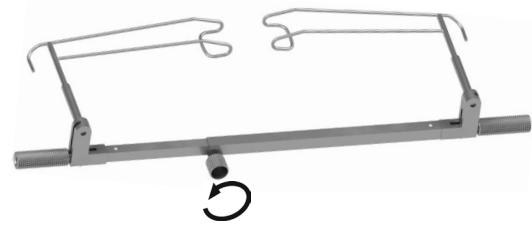
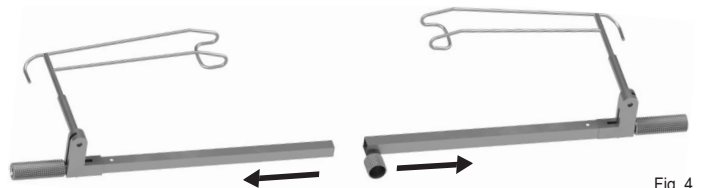

Fig. 3
Fig. 4
- Loosen the locking screw according to fig. 3.
- Remove the exterior bar carefully from the interior bar (fig. 4).
- Disassemble the *Schott Eye Speculum* with aspiration according to fig. 3 and fig. 4.
- Assemble the *Schott Eye Speculum* with aspiration according to figs. 3 and 4 in reverse order.